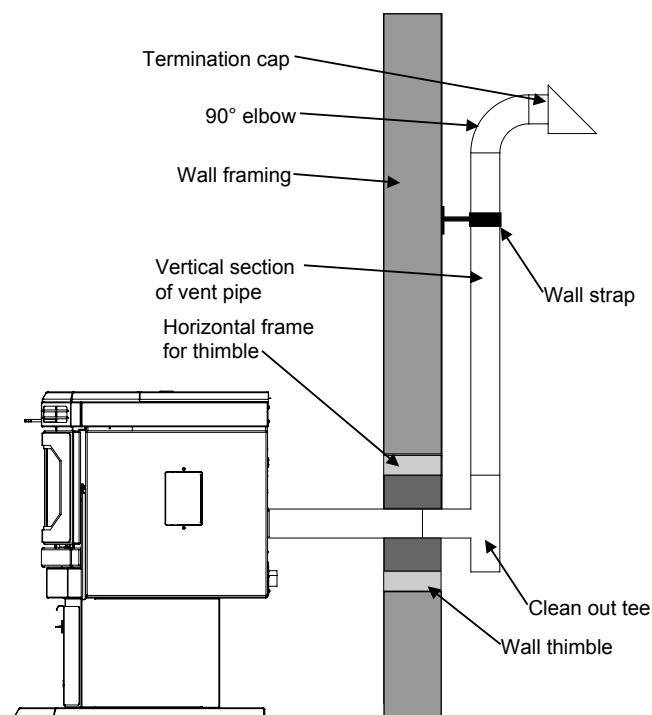

Figure 31: Venting horizontally with rise.
4. Plug the wiring harness into the control panel (see Figure 31).